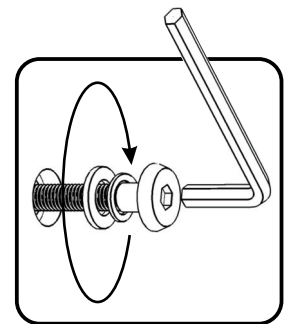

Figure 4
Attach Side Frame (B) to unit with Flat Washers, Spring Washers, Head Cap Bolts. (See Figure 4)